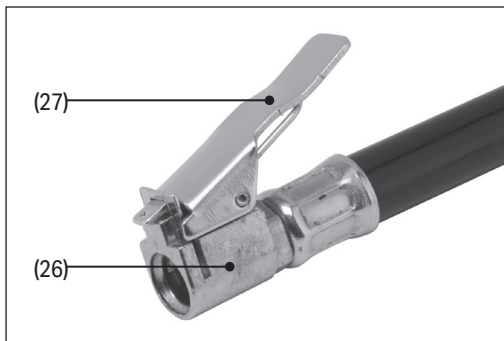

Fig. 14
2. Press and hold the valve coupling catch (27) and attach the valve coupling (26) to the tyre valve (Fig. 14).